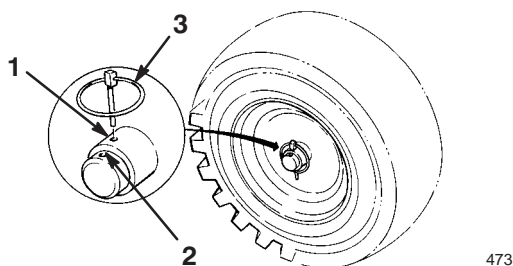

Figure 5
- Slide the wheels inward and insert each axle pin through the hole in each wheel hub and through the **inner** hole of the axle (Fig. 5).